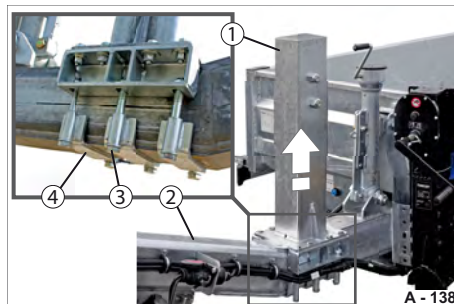

Fig. 198 Disassembling the mount
- Release the bolt connection (Fig. 198/3) on the drawbar (Fig. 198/2) - grip the clamp (Fig. 198/4) firmly.
- Lift the mount (Fig. 198/1) off the drawbar.